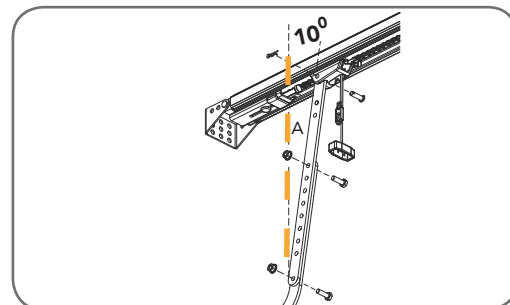

fig 24
- Connect the assembled arm to the bracket and the disengaged trolley with clevis and snap pins. The angle "A" must be more than 10° (**Fig. 24**).